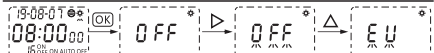

Figure 9 LCD display (set daylight saving time)
3.2.2.4.1 Press the "▽" key, the character "⊗" flashes, press the "OK" key to enter the daylight saving time setting state, press the "▷" key, the summer time mode character flashes, and then press the "△" key or "▽" key to operate. Select the required daylight saving time mode, including "OFF (Off)", "EU (Europe)", "USA (USA)", and "F-EE (Free)" modes, as shown in Figure 9. After the selection is completed, press "OK" to save, then press "OK" to exit.